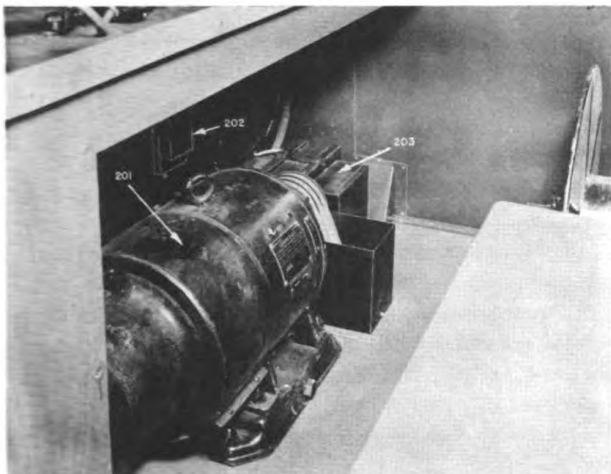

FIG. 3 GENERATOR GN-42-B, VIEW OF INSTALLATION
(1) Generator GN-42-B shown in Fig. 3 is intended as an emergency source of power for Radio Transmitter BC-325-B and its associated equipment and is driven by the truck motor from a separate power takeoff unit. The clutch lever engaging this power takeoff unit is located on the floor at the driver's side in the truck cab. The rating on the generator is as follows: